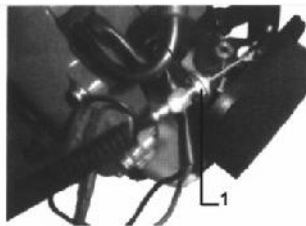

Fig. E6
1. Loosen the throttle cable nut at fan cover as shown in Fig.E6